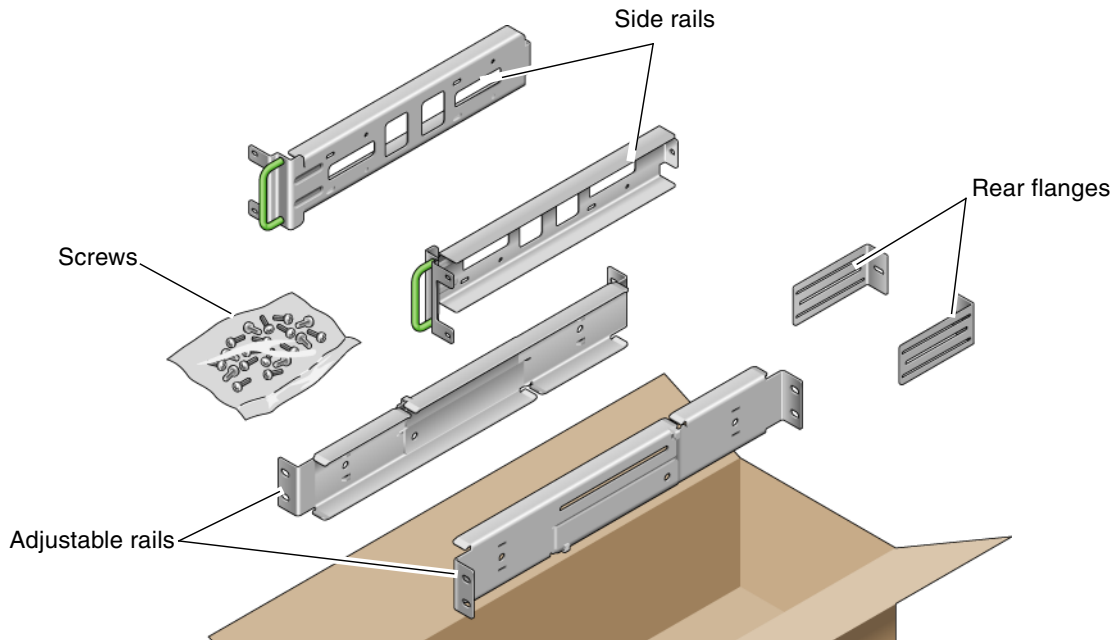

FIGURE 2-14 Contents of the Hardmount 600-mm 4-Post Kit
1. Get the adjustable rails from the rack kit (FIGURE 2-14).
7. Get the rear flanges from the rack kit (FIGURE 2-14).
9. Get the side rails from the rack kit (FIGURE 2-14).